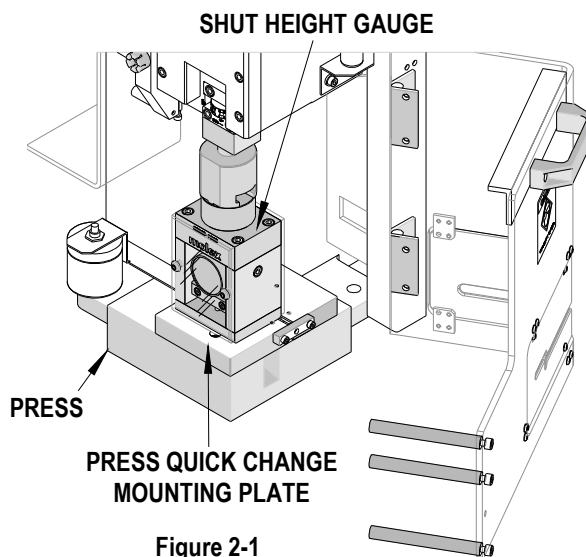

Figure 2-1
3. Place the shut height gauge into the press on the press quick change mounting plate. See Figure 2-1.